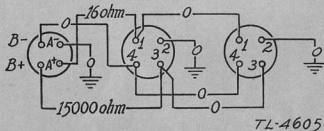

FIGURE 23.—Point-to-point resistance values, filter FL-10—outside view.
e. Filter resistances.—See figure 23.